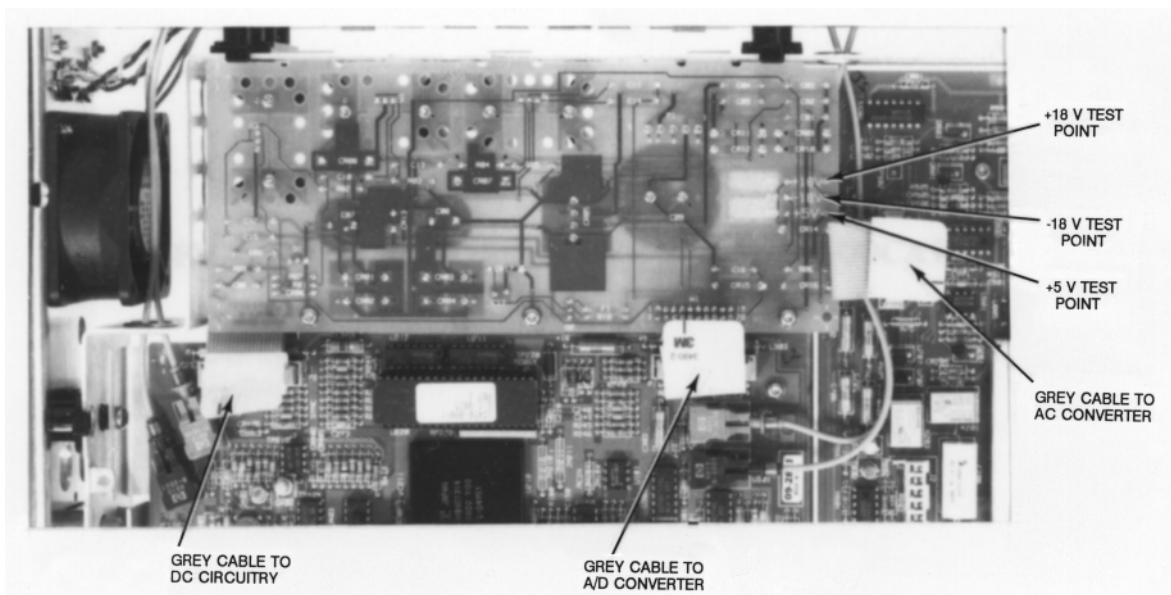

Figure 30. Inguard Power Supply
2. Refer to Figure 30. With the test digital multimeter, check for +5 V (± 0.13 V), +18 V (± 1.8 V), and - 18 V (± 1.8 V) at the test points shown in the figure.
6. Refer to Figure 30 to locate the grey 20-pin cable that connects the Inguard Power Supply (A4) assembly to the DC Circuitry (A1) assembly. Unplug the cable at the power supply assembly.